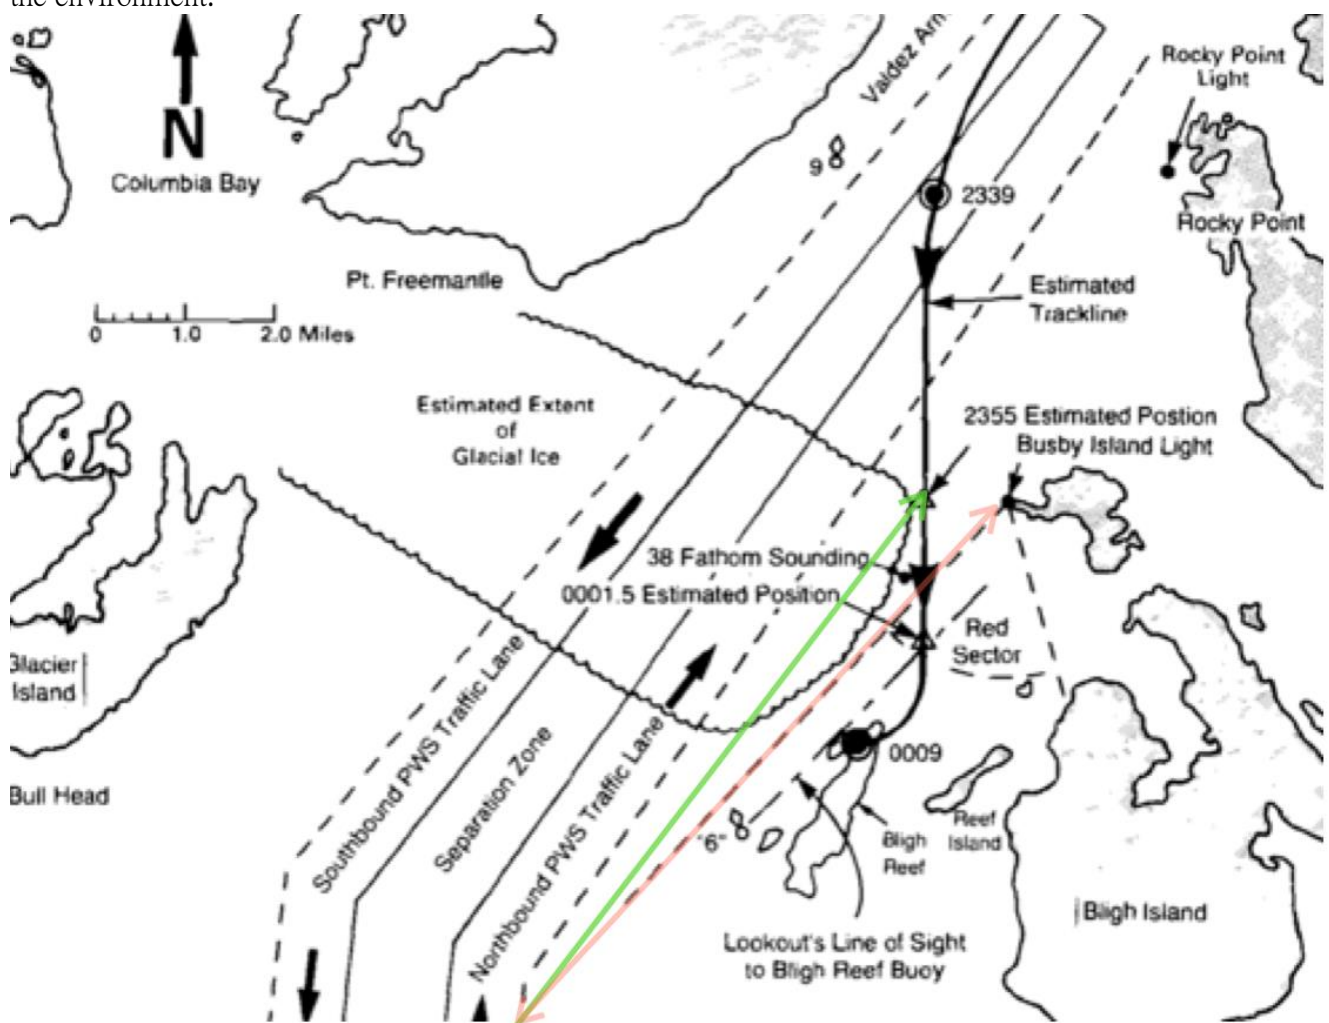

Figure 6-04: Parallel index: When or where to turn ownship back to channel again?
- Figure 6-04: Parallel index: When or where to turn ownship back to channel again?
position is OK or not, even exact position is not so sure. Captain or OOW on the bridge should check red sector light in Busby Island light. Like using parallel index skills or Variable range ring to keep in safe area. The green line on figure 6-04 is parallel index expected by 3/O, 0.9 nm distance to Bligh reef and course along TSS. The red line on figure 6-04 is parallel index set along Busby Is. Light. The green one is monitored by radar unit and red one is monitored by visual. One more checking on watch keeping is one more ritual to our instinct which will help OOW automatically. 3/O had checked vessel's position at 2355 hours but he has no clue this is the position where new course should begin. 3/O had testified possible ice floe passage he saw in Radar. But this route had not set on chart nor set on radar with parallel index line. After he fix ship's position there are no new course line on chart nor parallel index line on radar to remind him turning point is arrived. At 0058 hours when ownship had sailed inside red light sector of Busby Island light he did not look back to check the sector light's color is OK or not? His mind failed him in turning point, he didn't feel anything strange or missing. Inside red light sector, he may not prepared yet how to check ownship's safety by Busby Island light color. His mind is not there even *lookout reports Blight Reef light buoy broad off starboard bow*. If we check on the chart Blight Reef light buoy is always broad off starboard bow since 2355 hours when 3/O fix ship's position. Why lookout knows something is wrong or feels strange about Blight Reef light buoy's position at 0001.5 hours? (we might learn something from his wisdom.) He reported to 3/O. Maybe lookout's report is not clear enough. 3/O takes action slowly. Starboard 10 at 0001.5 hours. Two minutes later, at 00.02 3/O orders starboard 20 and at 00.04 hard (35 degrees) starboard. Delayed from last chance 2358 hours to 0001.5 hours in turning cause all the damage of the environment.